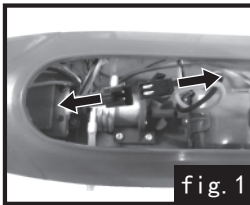
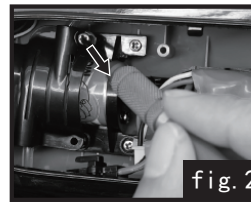
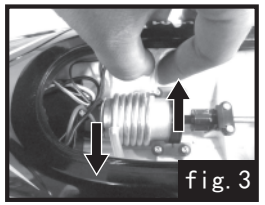

fig. 1
fig. 2
fig. 3
- 1.Unlock the switch to open the cabin cover, fig. 1 and fig. 2.
- 2.Install the Li battery and connect to power input of boat, fig. 3 and fig. 4.
- 1.Disconnect the motor from the battery,fig.1.
- 2.Unscrew the motor protection cover,fig.2.
- 3.Pull the plastic water hose out from the cooling tube on the motor,fig.3.
When the boat turns in water, push the direction rocker up to the end and hold, fig. 1, then push the throttle rocker up, fig. 2 and keep 2-3 seconds, then pull the throttle rocker back, fig. 3, keeps another 2-3 seconds, repeat to move throttle rocker up and down until the boat turns back.